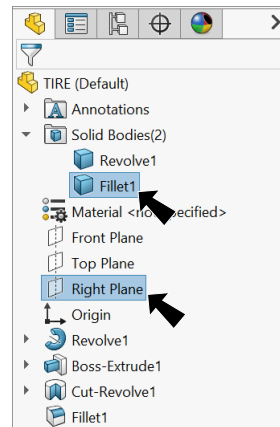

Fig. 30
Step 1. Expand Solid Bodies  folder in the Feature Manager. **Ctrl click Fillet1**  **body and Right Plane**  to select Body and Plane, Fig. 30.